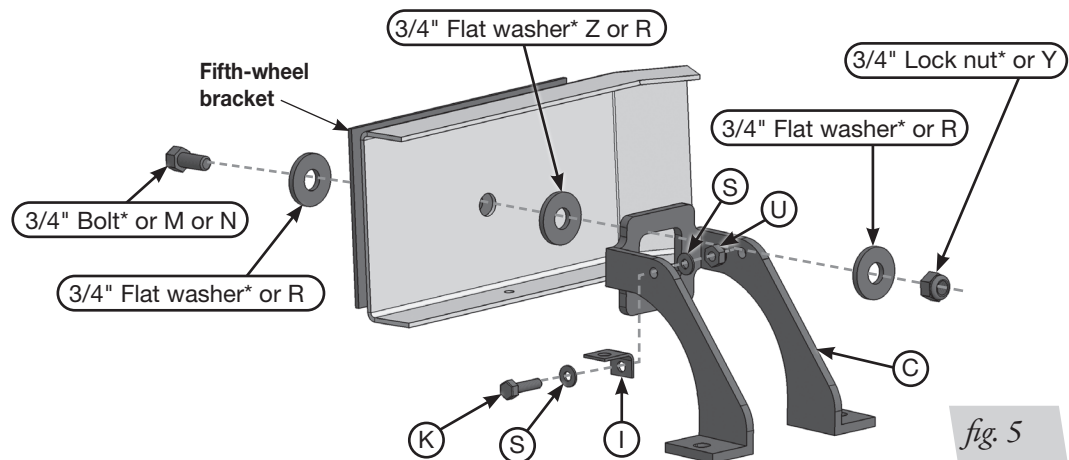

fig. 5
Set the upper frame brace (C) against the driver's (left) side of the frame (Fig. 5). Once the following procedure has been completed for the driver's (left) side, repeat for the passenger's (right) side.
If the truck has no fifth-wheel hitch or a hitch that does not have a plate running alongside the full length of the frame (these will have an "L" bracket forward and behind the axle, leaving the middle frame open) use the 1/2"-13 x 2" hex-head cap screw (M) with a flat washer (R) through the slot in the side of the frame, then through another flat washer (R) and finally through the upper frame brace. Cap with a flat washer (R) and a 1/2"-13 nylon lock nut (Y) (Fig. 5). Leave loose at this time.
If the truck has an aftermarket fifth-wheel hitch that has a bracket (plate) running alongside of the frame and it uses this slot to secure the bracket to the frame with existing hardware, install the existing hardware previously removed in the *Getting Started* section from the fifth-wheel installation for securing the brace (Fig. 5). Make sure to install the large 3/4" flat washer (Z) between the brace and frame (Fig. 5). Do not tighten at this time.
Insert a 1/2"-13 x 3" hex-head cap screw (N) with a 1/2" thick flat washer (R) through the fifth-wheel plate previously drilled, the frame, then through another 1/2" flat washer (R) and finally the upper frame brace. Cap with a 1/2" thick flat washer (R) and a 1/2"-13 nylon lock nut (Y) (Fig. 5). Leave loose at this time.
9. If the truck is equipped with the emissions line previously removed, attach the L-bracket (I) to the back or front leg of the frame brace using the 1/4"-20 x 1" hex-head cap screw (K), flat washers (S) and 1/4"-20 nylon lock nut (U) supplied (Figs. 5 & 19).